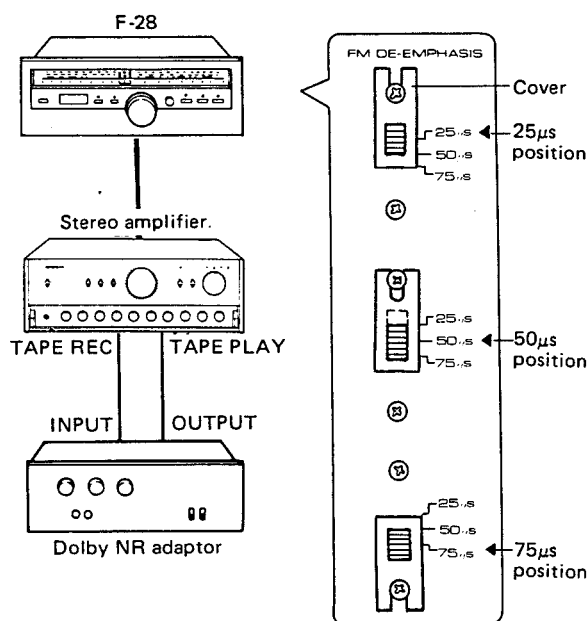

Fig. 11
1. As shown in Fig. 11, connect the Dolby NR adaptor to the tape (record & play) jacks of the stereo amplifier.